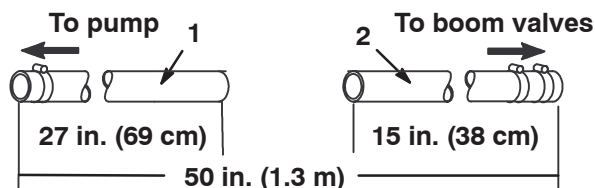

Figure 3
3. Measure, mark, and cut the supply hose as shown in Figure 3.